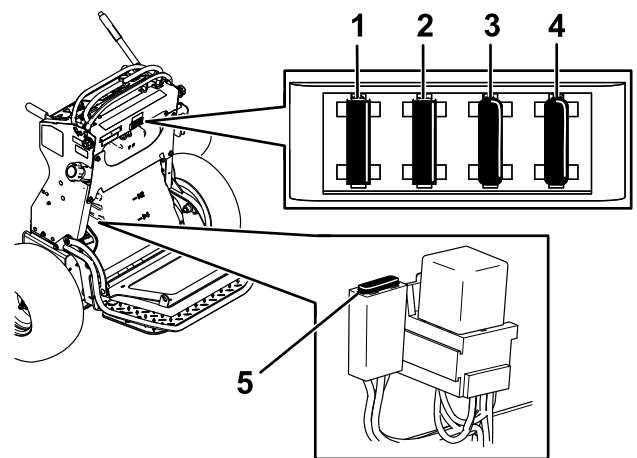

Figure 53
5. Pull out the fuse and replace it (Figure 53).